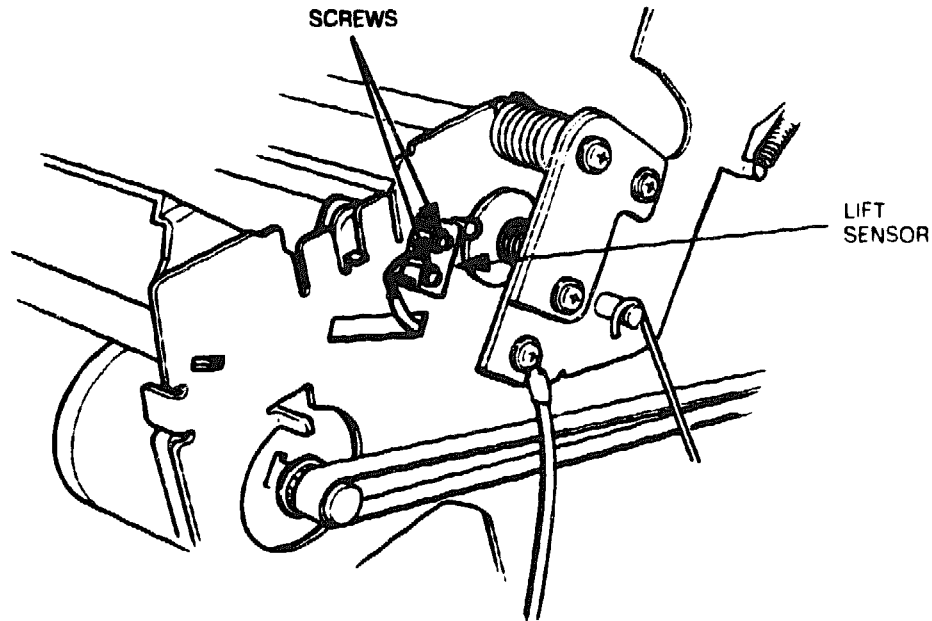

Figure 6-82 Lift Sensor Screws
3. Remove the two screws that secure the lift sensor to the lower side plate (L) assembly (see Figure 6-82).